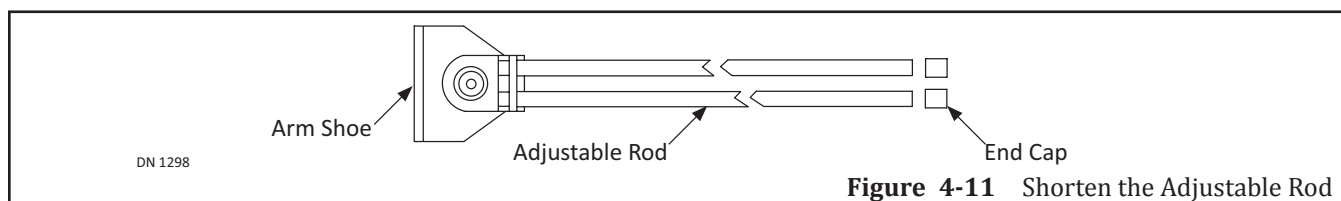

Figure 4-11 Shorten the Adjustable Rod
2. Slide a Rubber End Cap on each newly cut end of the Adjustable Rod. Please see Figure 4-11.